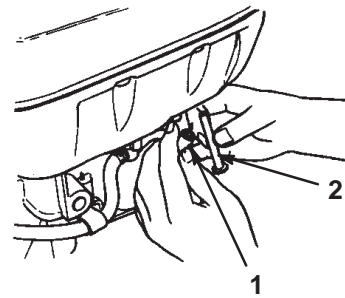

Figure 29
- Remove the fuel tube on the fuel tank by loosening the tube clamp (Fig. 29).
- Remove the fuel filter from the fuel tank (Fig. 29).